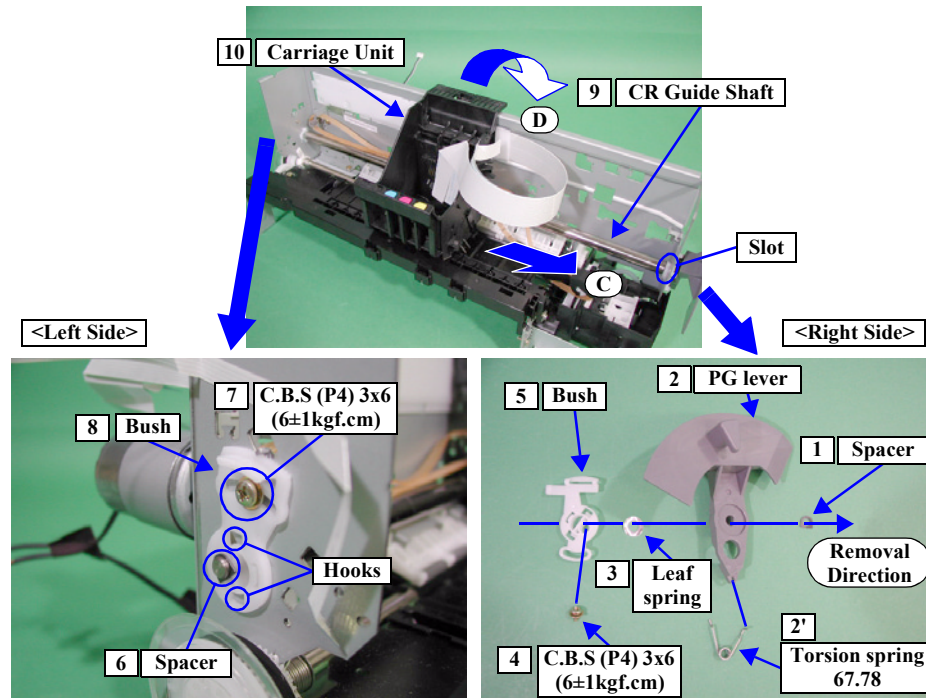

Figure 4-36. CR Guide Shaft/Carriage Unit Removal 2
4. Follow order shown in Figure 4-36 (lower right photo) to remove these items from the Printer Mechanism: (1) Spacer. (2) PG Lever. (2') Torsion Spring 67.78. (3) Leaf Spring. (4) 1 Screw (C.B.S (P4) 3x6). (5) Bushing.
5. Follow order shown in Figure 4-36 (lower left photo) to remove these items from the Printer Mechanism: (6) Spacer. (7) 1 Screw (C.B.S (P4) 3x6). (8) Bushing.
Be careful when installing the Bushings at each side of the Printer Mechanism because the Left Bushing and Right Bushing have different shapes. (See Figure 4-36)